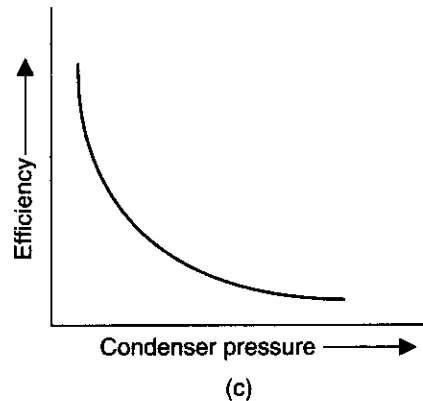

Fig. 12.5. Effect of operating conditions on the thermal efficiency of the Rankine cycle.
1. **Increasing boiler pressure.** It has been observed that by increasing the boiler pressure (other factors remaining the same) the cycle tends to rise and reaches a maximum value at a boiler pressure of about 166 bar [Fig. 12.5 (a)].
2. **Superheating.** All other factors remaining the same, if the steam is superheated before allowing it to expand the Rankine cycle efficiency may be increased [Fig. 12.5 (b)]. The use of superheated steam also ensures longer turbine blade life because of the absence of erosion from high velocity water particles that are suspended in wet vapour.
3. **Reducing condenser pressure.** The thermal efficiency of the cycle can be amply improved by reducing the condenser pressure [Fig. 12.5 (c)] (hence by reducing the temperature at which heat is rejected), especially in high vacuums. But the increase in efficiency is obtained at the *increased cost of condensation apparatus.*